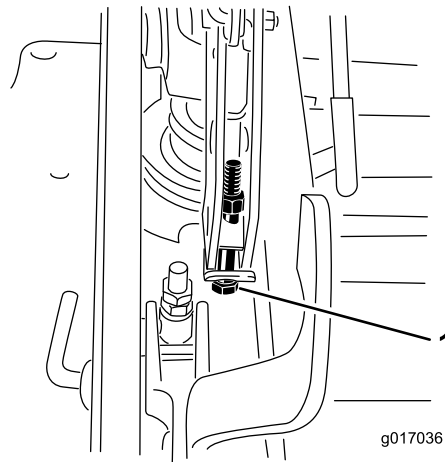

**Figure 90**
- Loosen the 2 bolts at the bottom of the height of cut plate to adjust the single point system (Figure 90).
- Tighten the two bolts at the bottom of the height of cut plate (Figure 90).